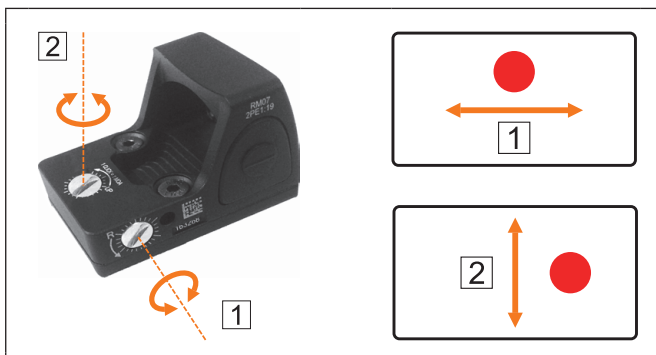

Fig. 18: Sight – setting the distance using the adjustment screws
4. Set the sight using the adjustment screws (fig. 18).